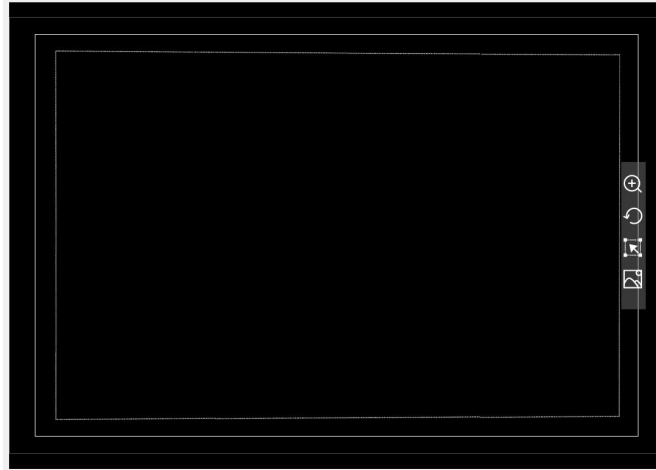

Fig.3-48 Adjust camera for framing
2) Select the central partition of the screen as the area for adjusting camera. Adjust the camera's capturing distance so that the shooting area aligns with and fills the camera frame. See Figure 3-48.